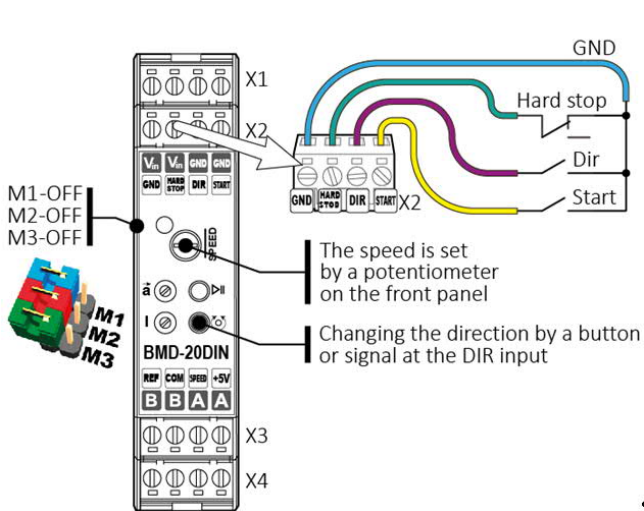

Fig.10. Speed control with internal potentiometer. Additional connection isn't required.
- 3) Connect the control elements to the controller according to chosen speed adjusting method as shown in the figures 10 – 15.